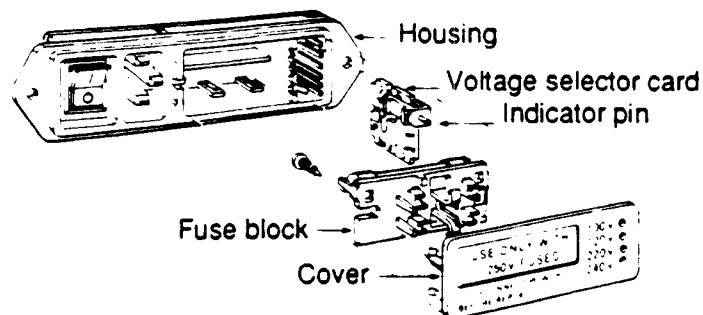

Fig. 2.1. Fuse plate, fuse block, and voltage card assembly.
2. Insert one 2 A fuse in the fuse block as shown in Figure 2.1. The 2 A fuses are 1 1/4 inches long, fast blow.
1. Carefully remove the voltage selection card (see Figure 2.1) by pulling it straight out from the housing. Do not damage the plastic indicator pin or the metal contacts on the selector card.
4. The white arrow on the indicator pin must align with the black arrow on the fuse block housing (see Figure 2.1).